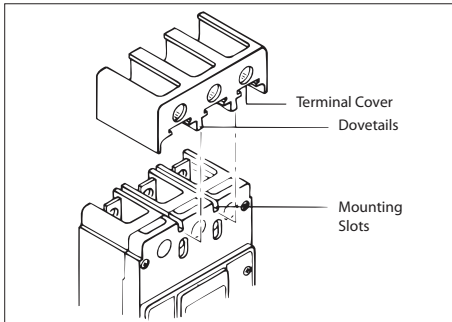

Figure 3. Terminal Cover Installation.
2.8 When step-type terminals (Cat. No. TA400K, TA401K, TA402K, and T400K) are used, terminal shields (supplied with the terminals) must be installed on the circuit breaker (see Figure 3). Warning label supplied with the kit must be attached to the circuit breaker front cover.